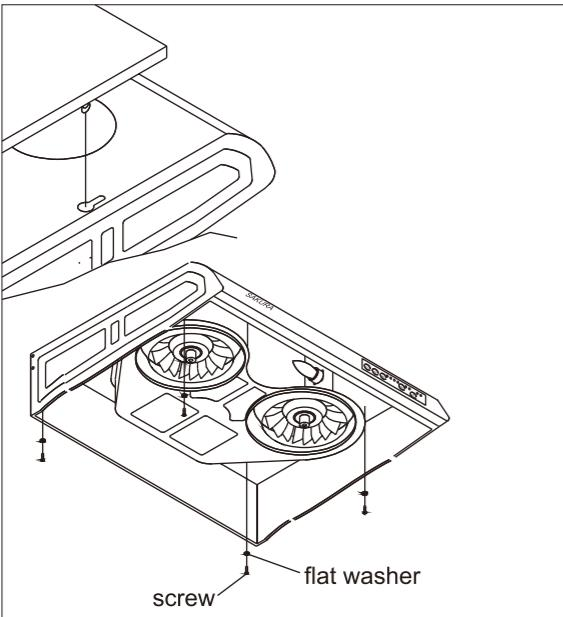

Fig. 13 Fit the keyhole slots over the screws
9. Fit the four wider ends of the keyholes into the four screws on the cabinet, then adjust the hood till the screws are pushed into the narrow part of keyhole slots. Loose every screws and increase 3/16" washers to screw on together. (Don't screw on too tightly.)(Fig. 13)